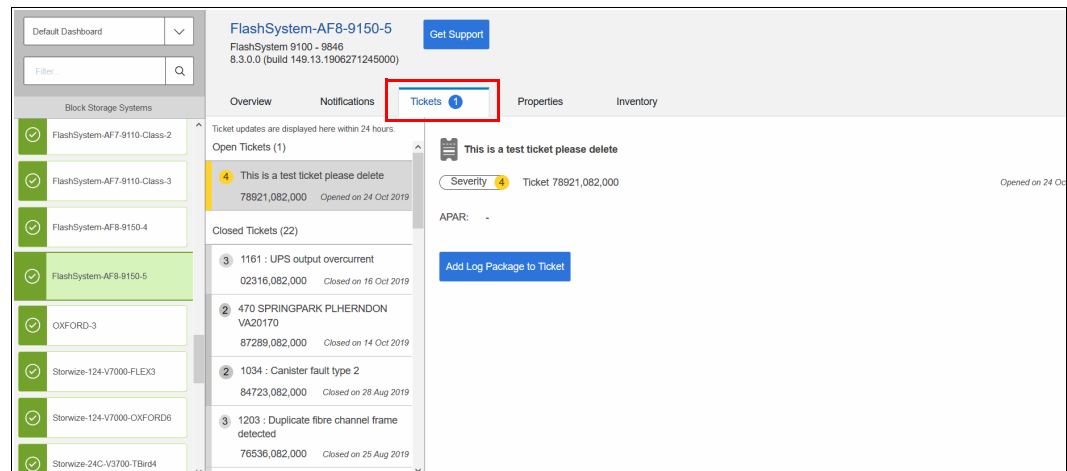

Figure 13-87 View Tickets
1. From the System Overview window, select **Tickets**, as shown in Figure 13-87.